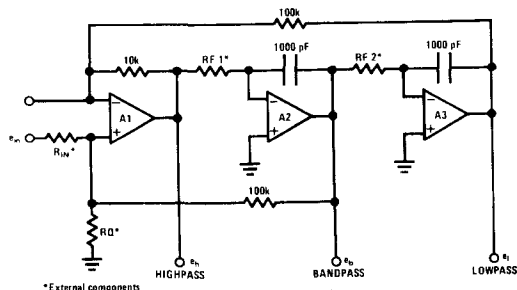

FIGURE 2. Non-inverting Input ( $Q > Q_{MIN}$ . See Q Tuning Section)
The specific transfer functions for some of the most useful circuit configurations using the AF160 are illustrated in *Figures 2 through 8*. Also included are the gain equations for each transfer function in the frequency band of interest, the Q equation, center frequency equation and the Q determining resistor equation.
a) Non-inverting input (Figure 2) transfer equations are: